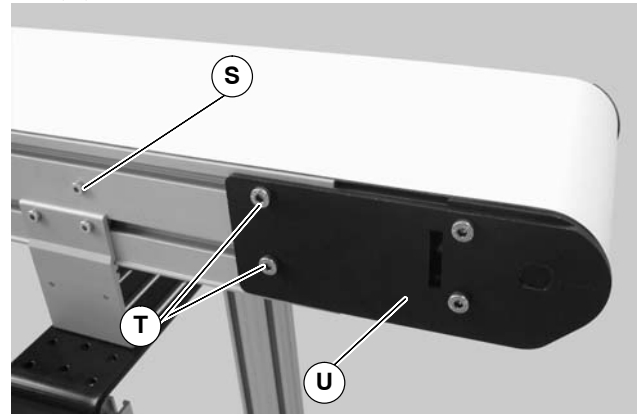
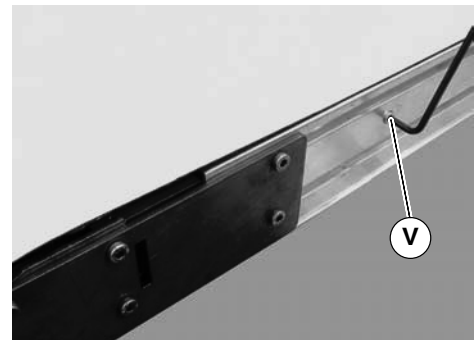

Figure 21
Figure 22
4. On tension end of the conveyor, identified by the pinion locking screw (S of Figure 21), push in head plate assembly (U): Loosen the pinion locking screw (S), adjust the pinion torque screw (V of Figure 22). On both sides of conveyor, loosen the two tail clamp bolts (T of Figure 21), and push head plate assembly (U) inward.